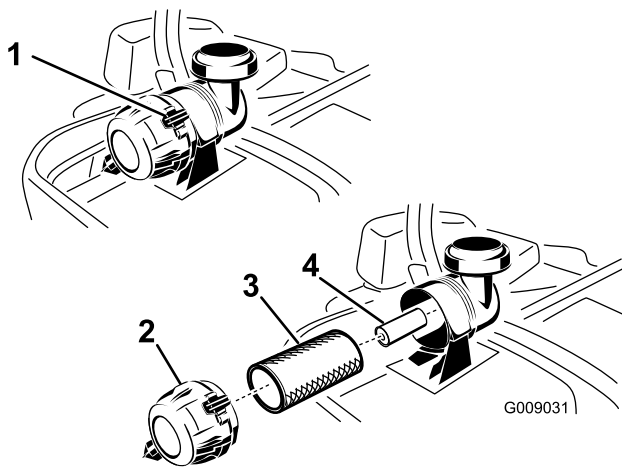

Figure 47
3. Push down to release the retaining clamps on the air cleaner, and pull the air-cleaner cover off the air-cleaner body (Figure 47).
5. Gently slide the primary filter out of the air-cleaner body (Figure 47). Avoid knocking the filter into the side of the body.
1. Do not clean the paper filter, replace it (Figure 47).
2. If the secondary filter is being replaced, carefully slide it into the filter body (Figure 47).
3. Carefully slide the primary filter over the secondary filter (Figure 47).
5. Install the air-cleaner cover with the breather cap down, and rotate so that the retaining clamps lock the cover in place (Figure 47).